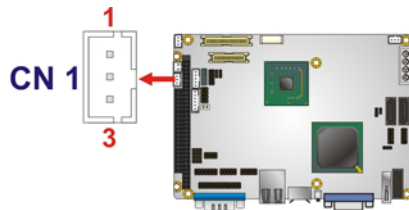

Figure 3-17: PC/104 Power Input Connector Pinouts
- CN Location:** See **Figure 3-17**